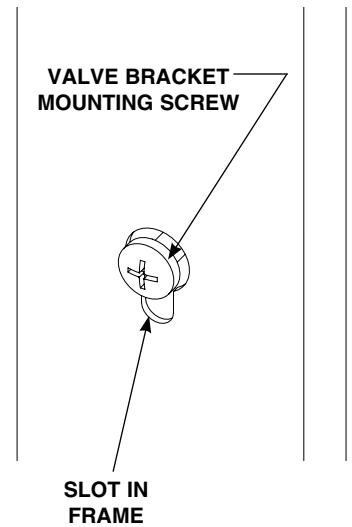

Figure 5b
1. Loosen but do not remove the two mounting screws holding the valve bracket to the frame. Slide the valve bracket up until the larger cutout in the frame's slot aligns with the screw head (see Figure 5b). Then lift up to remove the valve bracket from the frame.